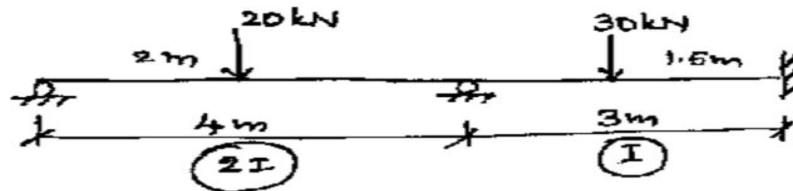

Figure 4
15. Analyse the beam shown in Figure 4 using flexibility matrix method and draw S.F.D. and B.M.D.